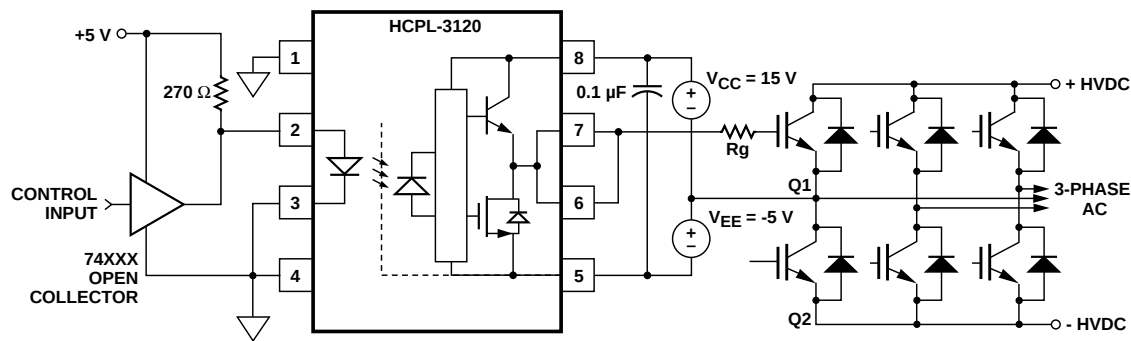

Figure 26. HCPL-3120 typical application circuit with negative IGBT gate drive.
Step 1: Calculate R_g Minimum from the I_{OL} Peak Specification. The IGBT and R_g in Figure 26 can be analyzed as a simple RC circuit with a voltage supplied by the HCPL-3120.
For the circuit in Figure 26 with I_F (worst case) = 16 mA, $R_G = 8 \Omega$, Max Duty Cycle = 80%, $Q_G = 500 \text{ nC}$, $f = 20 \text{ kHz}$ and $T_A \text{ max} = 85^\circ\text{C}$: